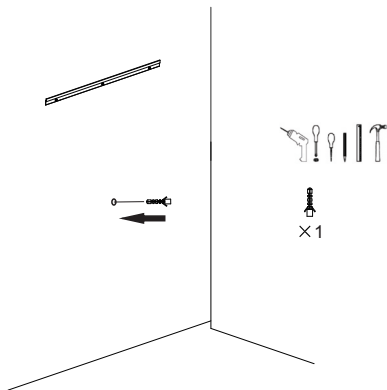

Fig. 5
2.2 Remove the mirror cabinet, drill the fixing hole in the wall in the marked position, and place the expansion plugs (Fig. 5).